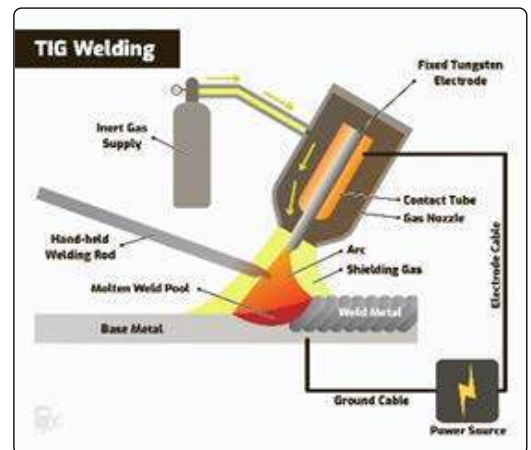

Fig. 1
- TIG (Tungsten Inert Gas) welding uses inert gases (primarily argon or helium) to protect the weld area, especially for high-quality welds on aluminium, stainless steel and titanium (*Fig. 1*).